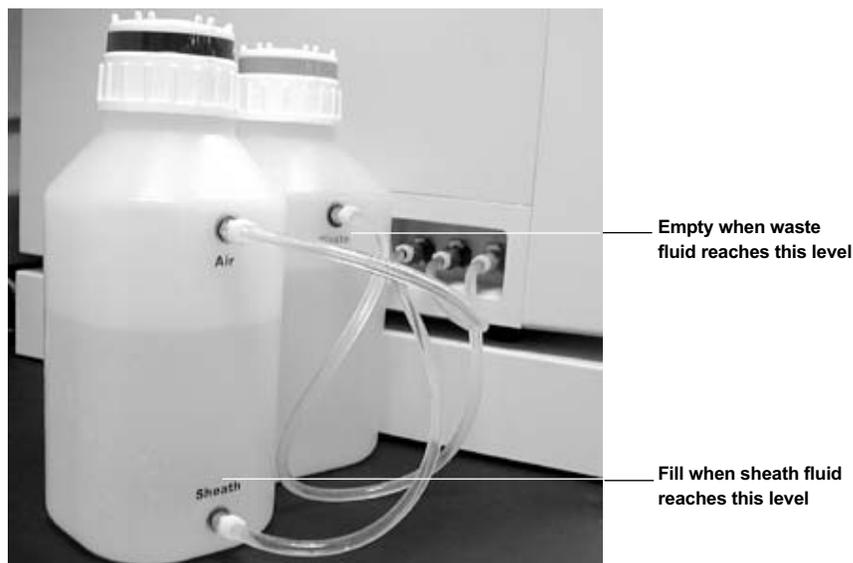

Fig. 12. Waste and sheath fluid bottle connections.
3. Fill the sheath fluid bottle with sheath fluid supplied in the 20 L cube container (catalog #171-000055) to just below the air intake. Tighten cap (Figure 12).